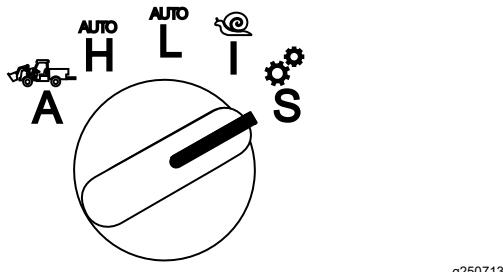

Figure 19
1. Rotate the operation-mode selector to the S position (Figure 19).